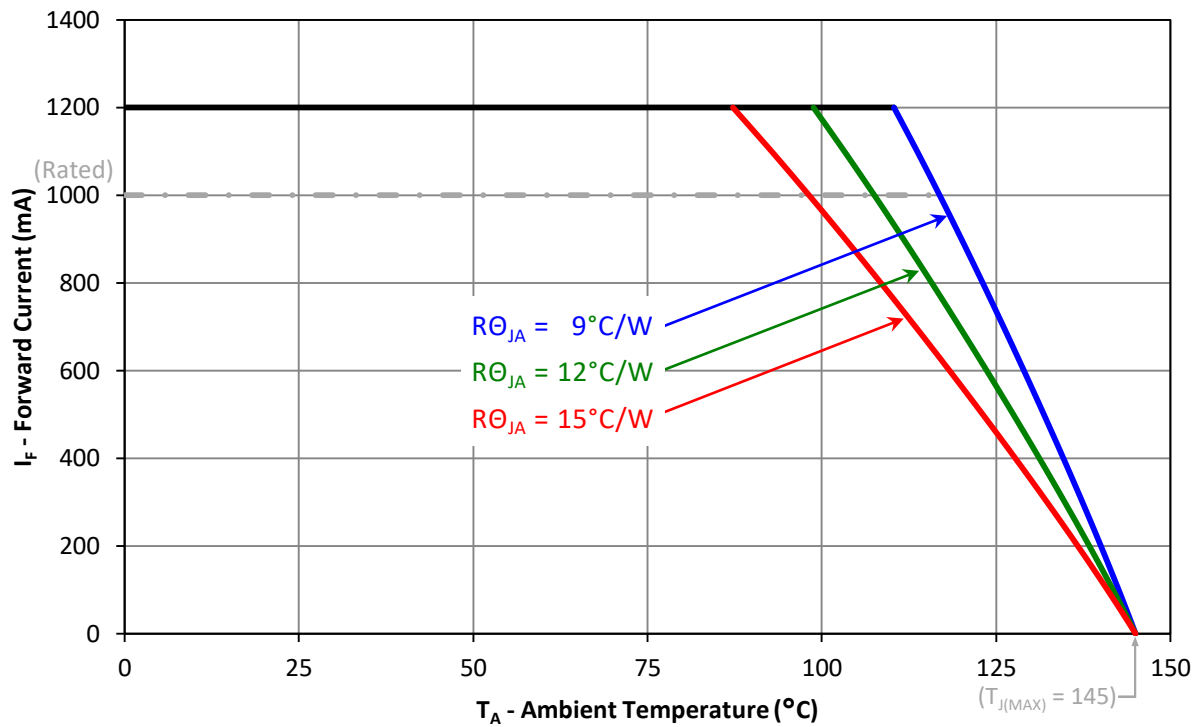

Figure 11: Maximum forward current vs. ambient temperature based on $T_{J(MAX)} = 145^\circ\text{C}$.
- Maximum DC forward current is determined by the overall thermal resistance and ambient temperature. Follow the curves in Figure 11 for current derating.
Notes for Figure 11: